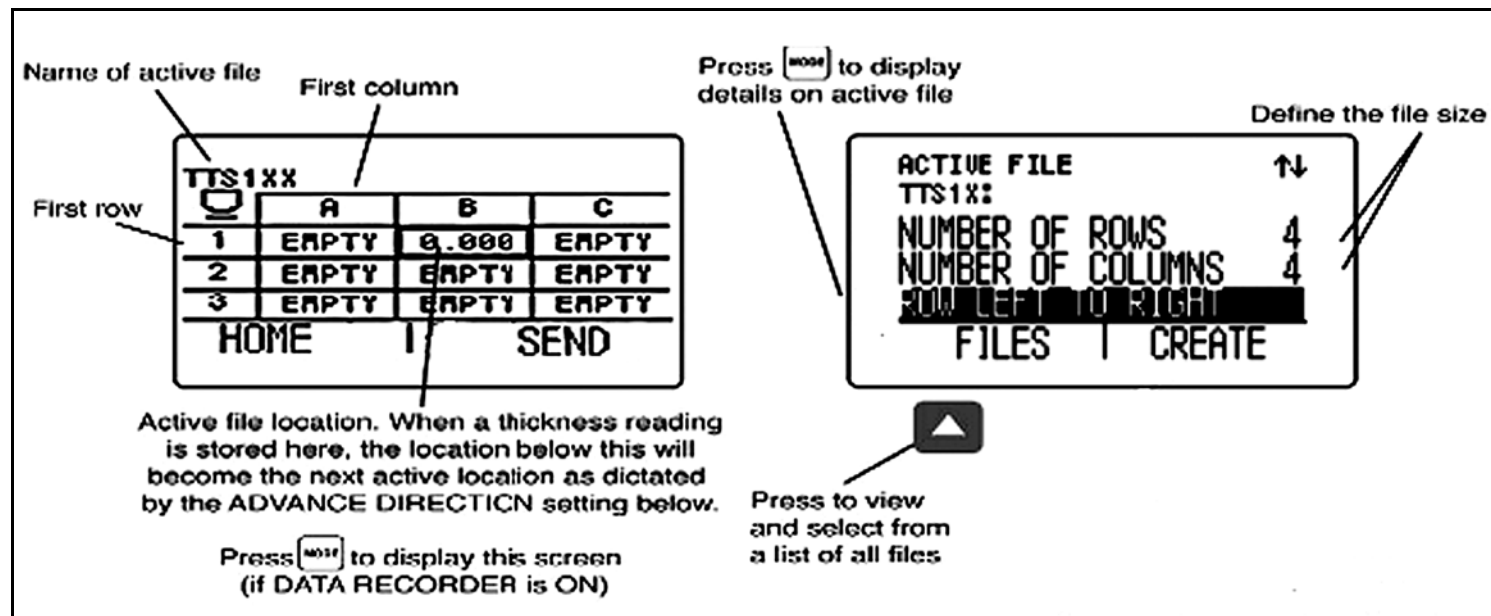

Figure 20: Defining the Size and Advance Direction of a Data Recorder File
- The numbers of ROWS and COLUMNS in the Data Recorder file (see *Figure 20 on page 48*).
- The ADVANCE DIRECTION (see *Figure 20 on page 48*).
The Data Recorder must be enabled (turned ON) via the CONFIGURATION display. Once the Data Recorder is turned on, the contents of the active Data Recorder file are displayed in the *File Navigation Grid* shown in *Figure 20 on page 48*.
Figure 20 on page 48. After the navigation grid is activated, , ,  and  can be used to select any file position. A heavier grid box appears around the selected file position. Once a file position has been selected: